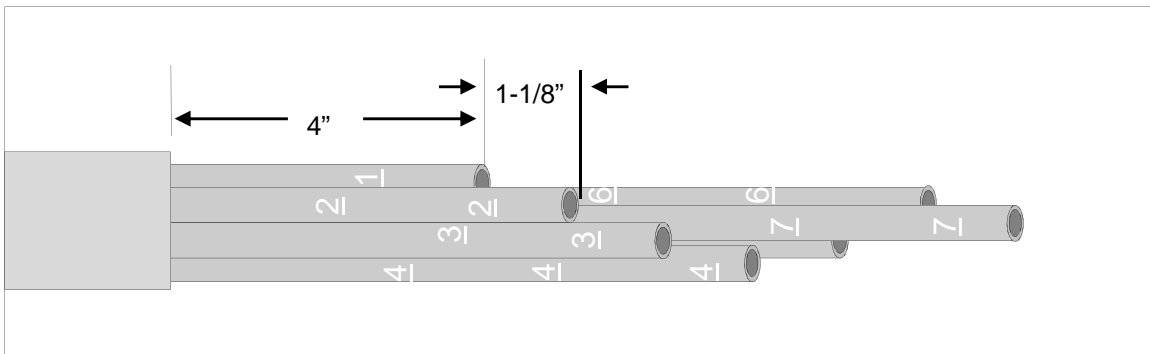

Figure 4
7.2 On first tube cable, locate Tube #1. Measure 4" in from stripped end of tube cable jacket and mark Tube #1. Use Tubing Cutter (BETC001) to cut Tube #1 at this mark. **See Fig. 4.**
7.3 Locate Tube #2. Measure 1-1/8" from the previous cut tube (Tube #1) and mark Tube #2. Use Tubing Cutter (BETC001) to cut Tube #2 at this mark. **Refer to Fig. 4.**
7.6 On second tube cable, locate Tube #7. Measure 4" in from stripped end of tube cable jacket and mark Tube #7. Use Tubing Cutter (BETC001) to cut Tube #7 at this mark. **Refer to Fig. 4.**
7.7 Locate Tube #6. Measure 1-1/8" from the previous cut tube (Tube #7) and mark Tube #6. Use Tubing Cutter (BETC001) to cut Tube #6 at this mark. **Refer to Fig. 4.**